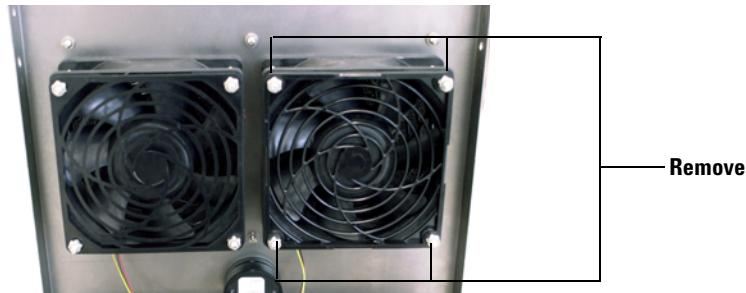

Figure 8 Removing the fan.
- 4 Remove the four screws and nuts from the faulty fan. (See Figure 8.)